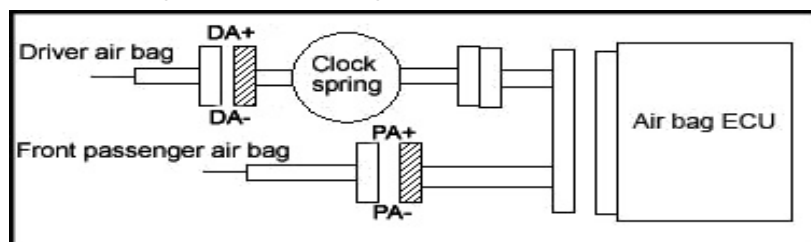

Fig. 5-9
- (1) Turn the ignition switch to position LOCK.
- (2) Remove the negative ground wire from the battery and wait for at least 3min.
- (3) Connect the driver air bag module. See Fig. 5-9.